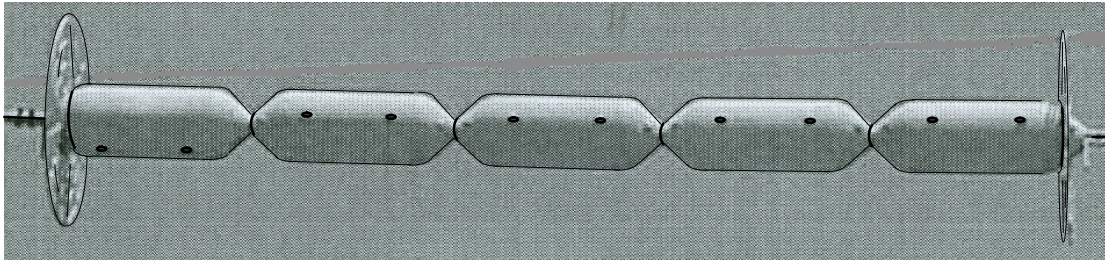

FIGURE 2
4. When the line guard installation is complete, it should appear as shown in Figure 2.